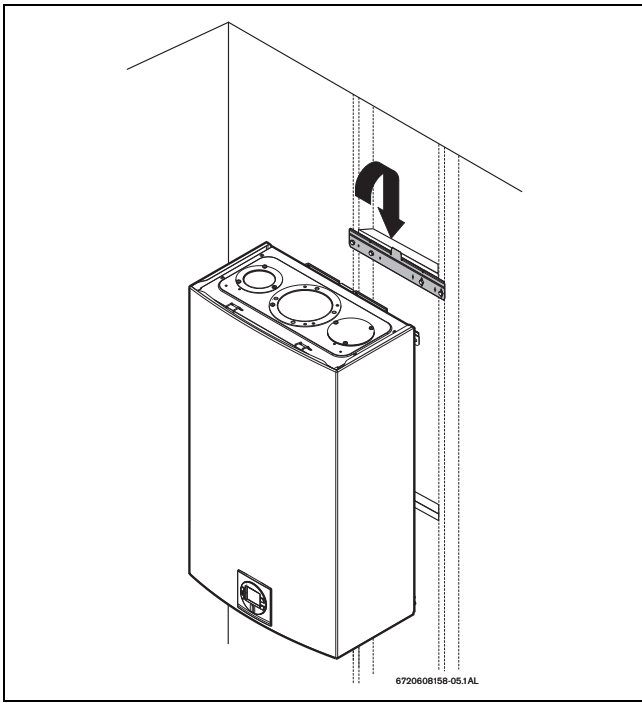

Fig. 31 Mounting the heater
- ▶ Hang the appliance on the bracket, see fig. 31, page 26.